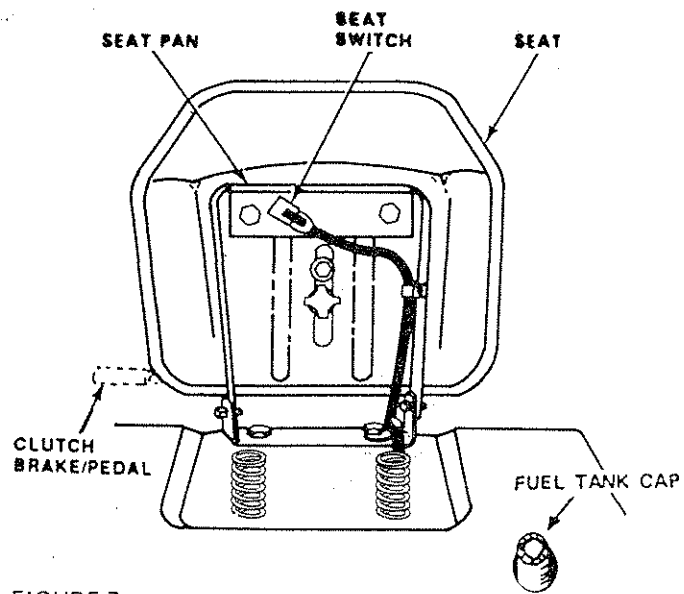

FIGURE 7
- Place seat on seat pan. Screw hand adjustment knob, flat washer and lock washer, and shoulder bolt into seat (Fig. 7). Hand adjustment knob, washers and shoulder bolt found in bag of parts.
- Tighten Shoulder Bolt using a 1/2" wrench (Fig. 7). Note that Shoulder Bolt will be loose in Seat Pan slot.
- Hand tighten Adjustment knob. (FIG. 7).
3. Fill Fuel Tank (Fig. 7). Use fresh, clean, regular "UNLEADED" automotive gasoline. Use of regular leaded gasoline is not an acceptable substitute. Use of leaded gasoline will increase carbon and lead oxide deposits and reduce valve life. Capacity is 3-1/2 gallons.